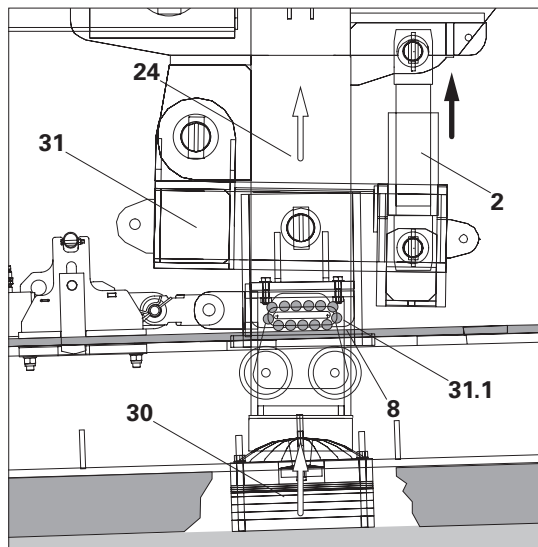

Fig. B4.04
- Front main cylinder raises the main frame post (24) with post base (30) when extended further. (Fig. B4.04)